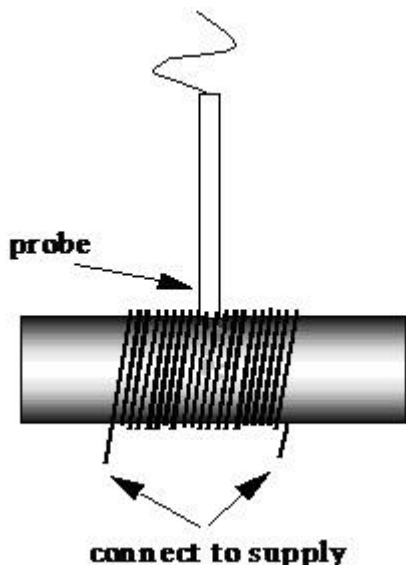

Figure 3. Measuring radial field
- Insert the field probe into the side hole of the vacuum hose (the one with the grooves) as shown in Figure 3 below.